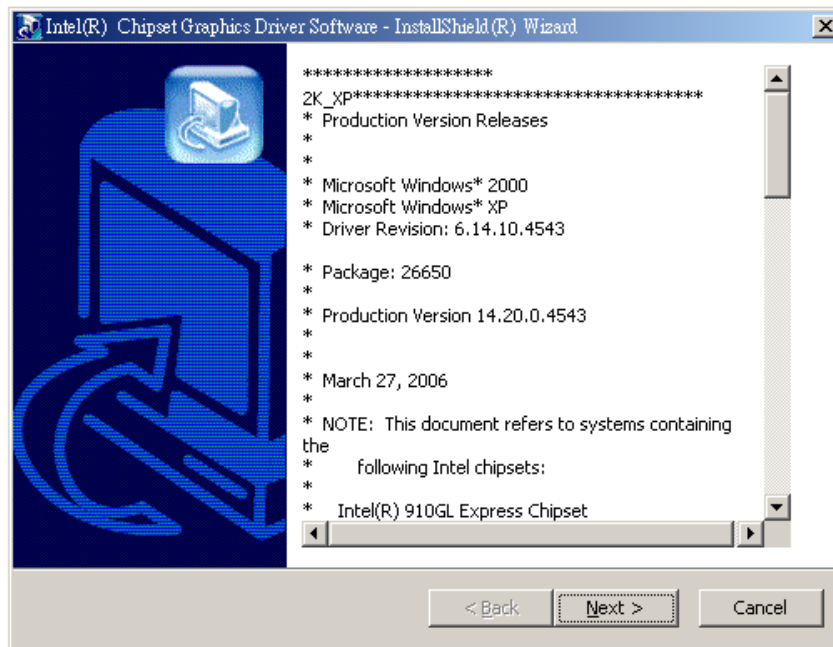

Figure 6-6: Starting Install Shield Wizard Screen
- Step 3:** The Starting Install Shield Wizard appears (Figure 6-6).